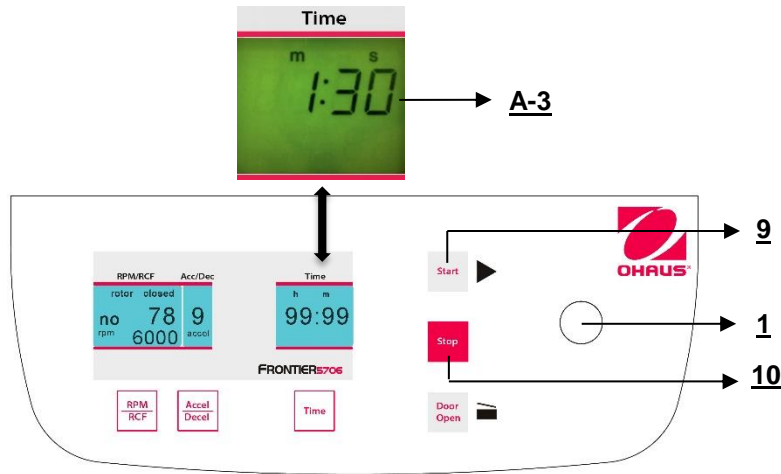

Figure. 22
To start the centrifuge, make sure that the lid is closed and then press the key **"Start"** (9), (refer to figure 22). With the key **"Start"** (9) you can start runs with manually pre-selected parameters. When the respective pre-selected running time has ended then the centrifuge will stop automatically or you can interrupt each run with the key **"Stop"** (10).